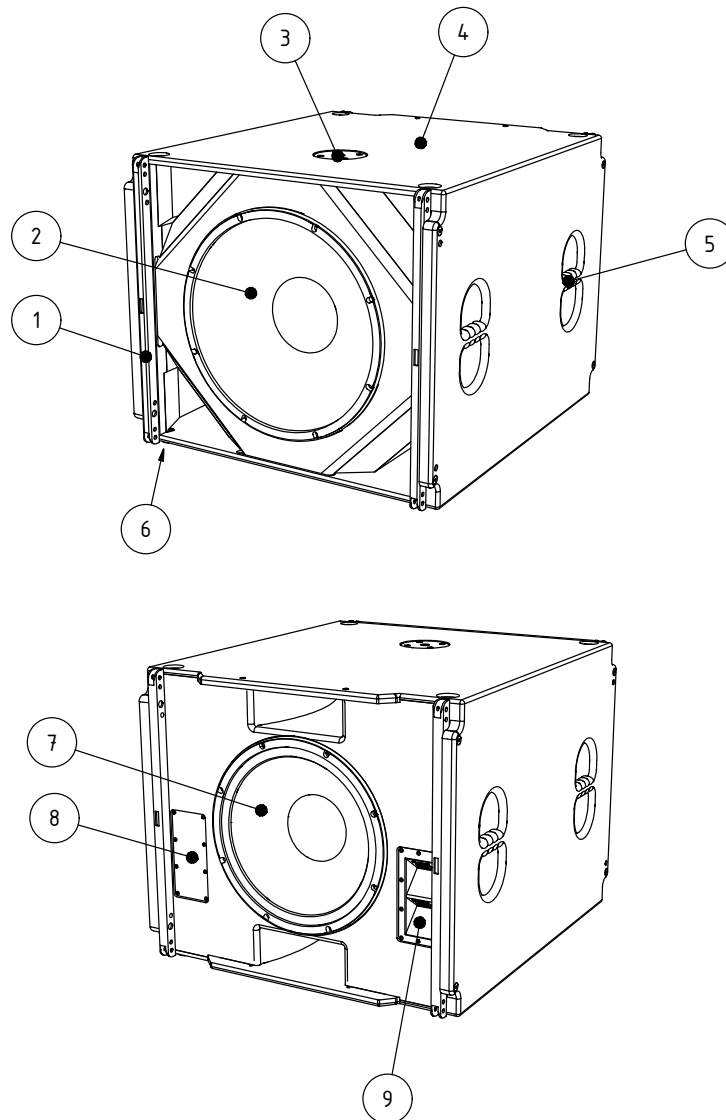

Figure 2.1 - Overview
Make sure that the maximum load of 50kg / 110lbs for the M20 pole mount flange is not exceeded! Figure 2.1 – Item 2.
The M20 pole mount flange (figure 2.1- item 2) is not designed for side forces once mounted – do not apply any pressure from the sides.
Please note that only centered loads are allowed to be placed on the M20 pole mount flange – Figure 2.1 – Item 2.
Please note that the VERAS33 loudspeakers must be mechanically correctly connected with each other. This may only be done via the front and rear rigging tracks (see figure 2.1 - pos.5) and additional box link set BLS!